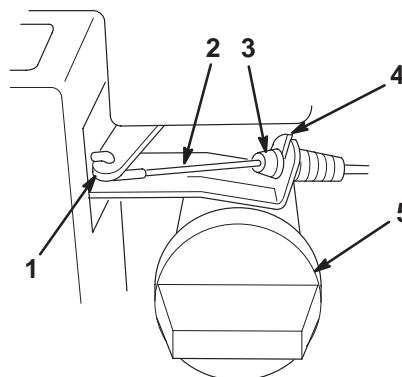

Figure 5
1. Disconnect the blade brake cable from the brake arm (Fig. 5).
2. Use a pliers to squeeze the tabs on the top and bottom of the cable fitting, and slide the brake cable out of the brake assembly (Fig. 5).